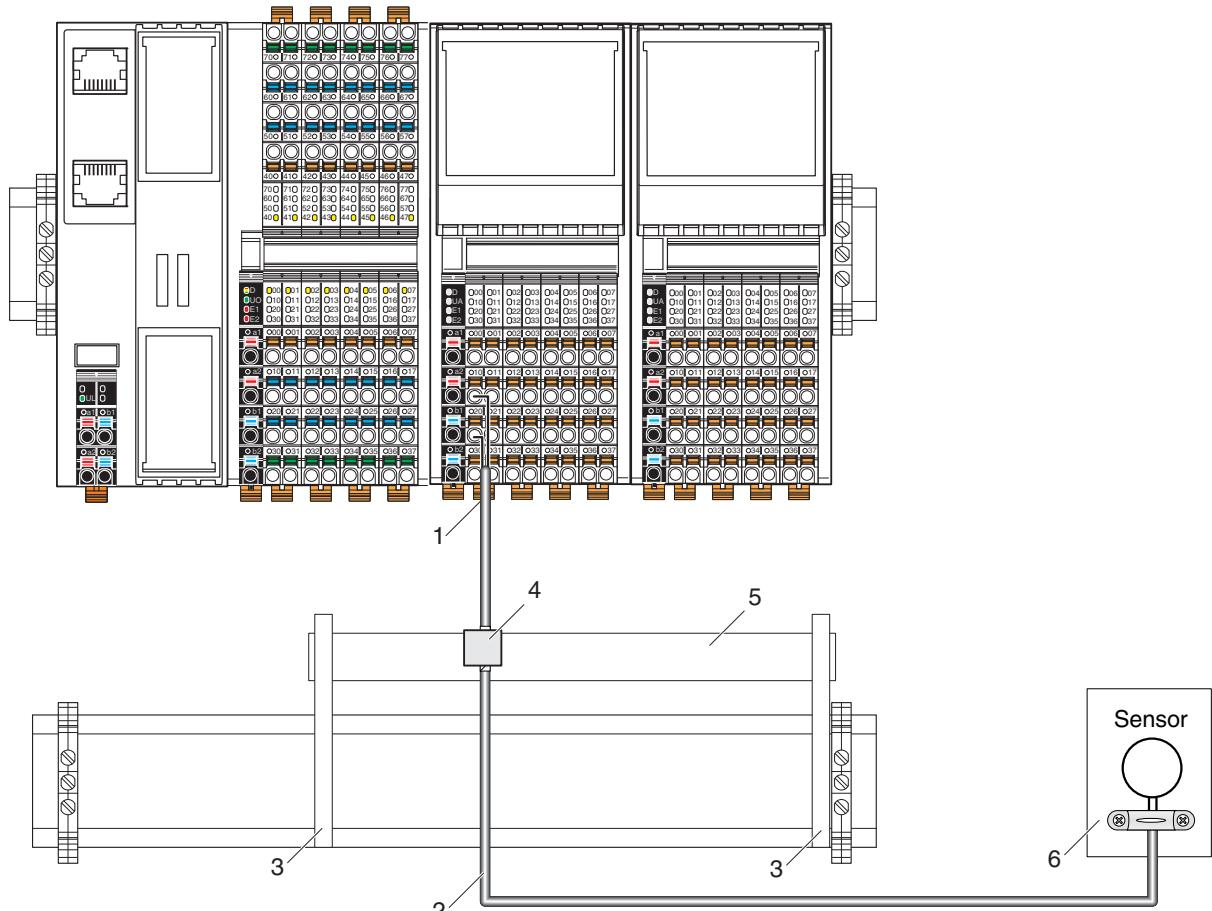
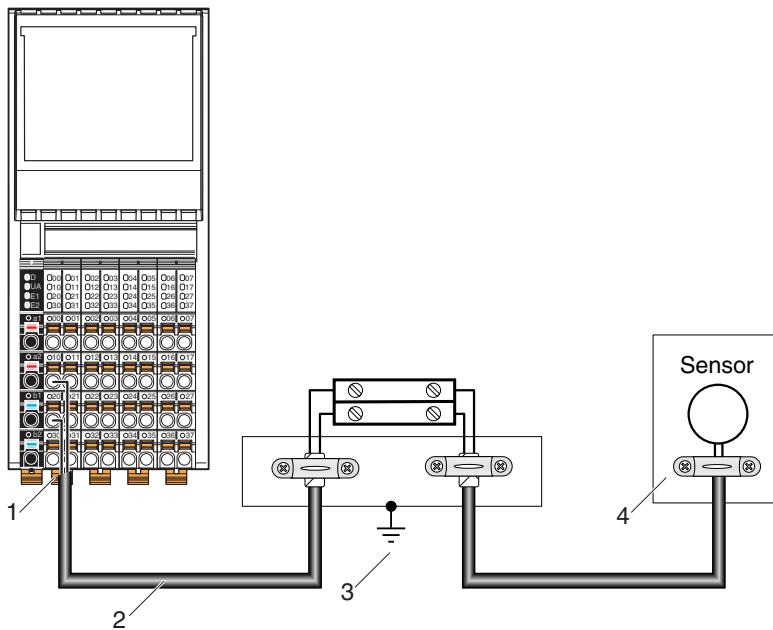

Figure 9-9 Connecting the shielding to a busbar
Figure 9-10 Integration of analog shielding in a concept with central equipotential bonding at the control cabinet entry
- Connect the shield via a shield bus (see Figure 9-9).
- As a rule, shielding must only be connected directly to the FE potential on one side. This is to prevent any occurrence of equipotential bonding currents via the shielding (see Figure 9-9 and Figure 9-10).
- If necessary, integrate the shielding concept for analog I/O cables in the system concept. For example, it is advisable to use a central FE shield connection at the control cabinet entry (see Figure 9-10).